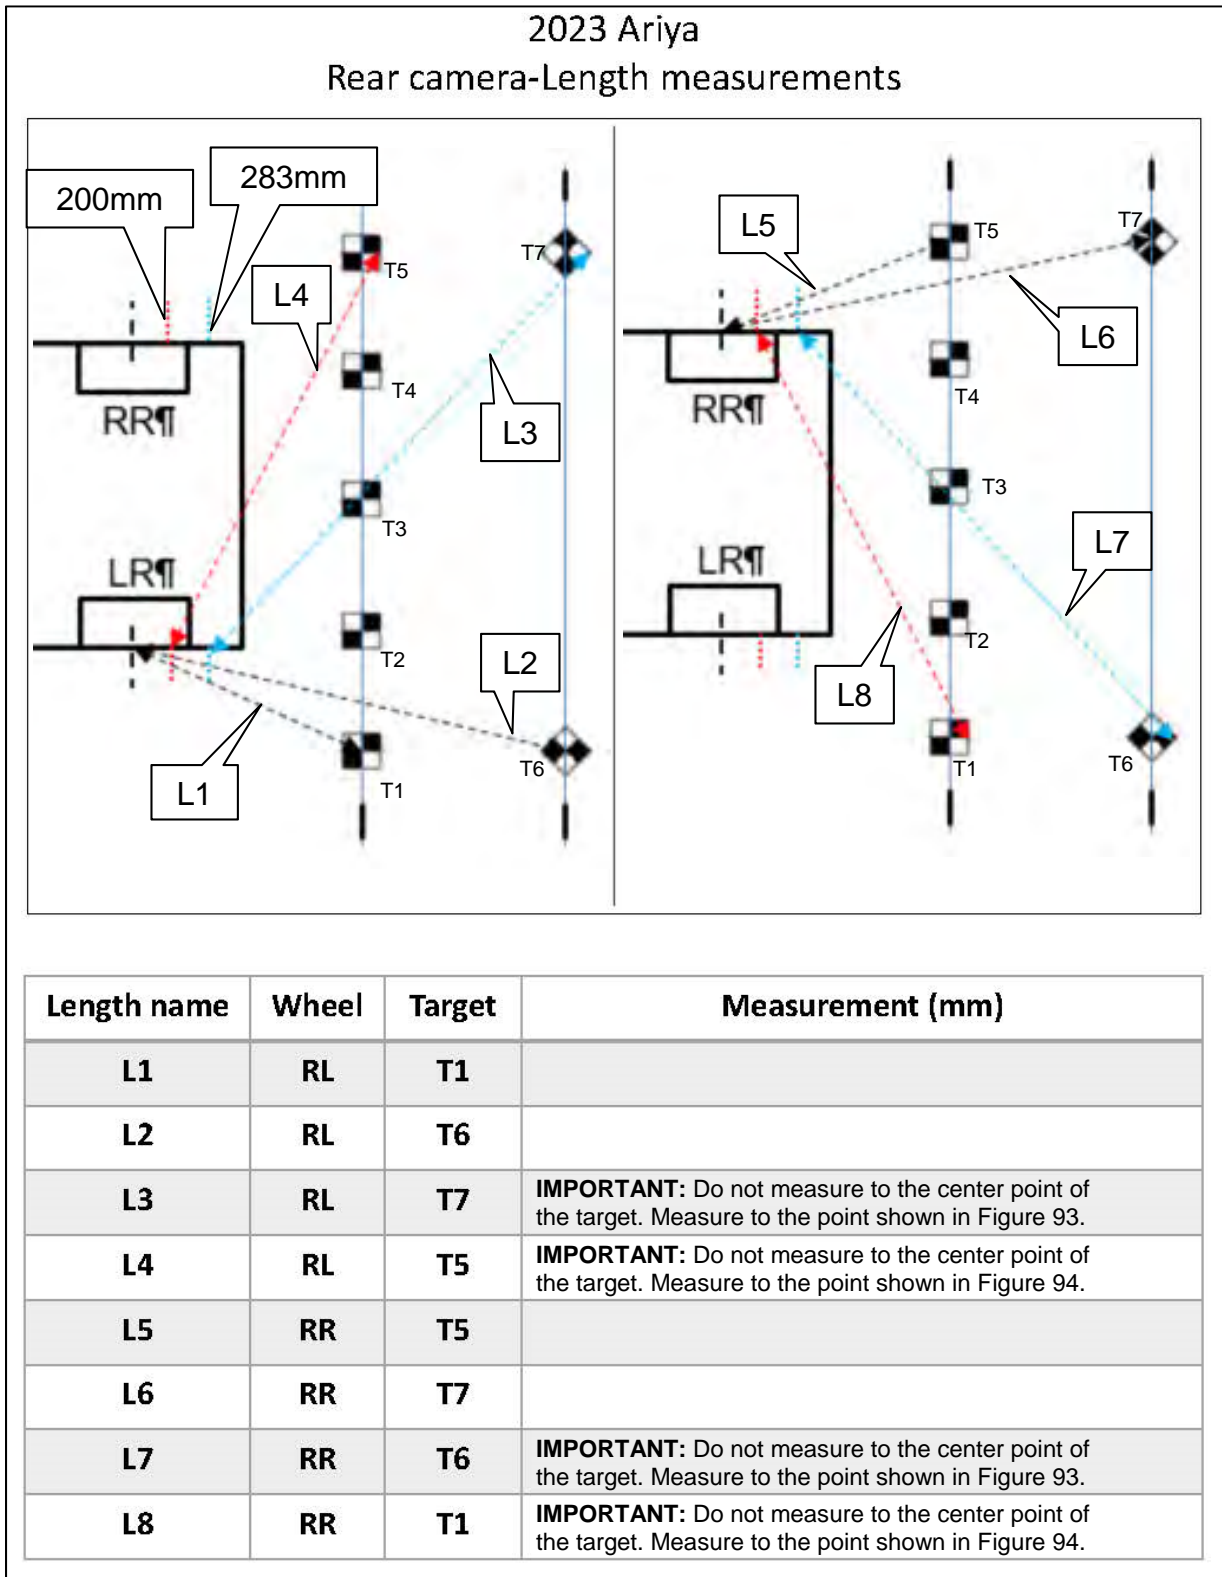

Figure 100
IMPORTANT: All measurements must be in millimeters (mm). Refer to the illustrations in Figure 100 on page 52 to ensure the correct measurement is documented in the correct order and for each calibration target.
66. Measure the distance between the center point of the driver (LH) side rear wheel to the center of the calibration target T1, and then document that distance as L1 in Figure 100 and page 52.
67. Measure the distance between the center point of the driver (LH) side rear wheel to the center of the calibration target T6, and then document that distance as L2 in Figure 100 and page 52.
68. Measure the distance between the 283 mm mark of the driver (LH) side rear wheel to the most rearward point of the calibration target T7, and then document that distance as L3 in Figure 100 and page 52.
69. Measure the distance between the 200 mm mark of the driver (LH) side rear wheel to the most rearward point of the calibration target T5, and then document that distance as L4 in Figure 100 and page 52.
70. Perform steps 66 - 69 starting on page 49 for the passenger (RH) side rear wheel measurements L5-L8, and then document the distances in Figure 100.